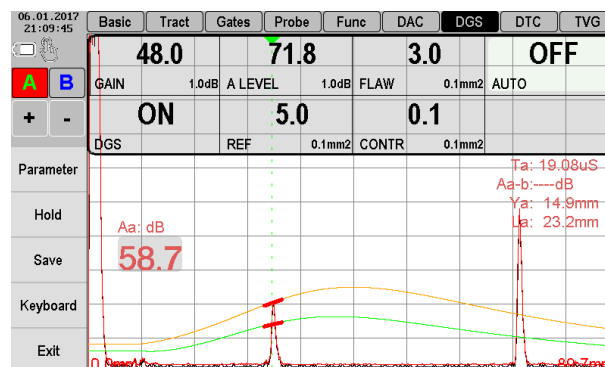

Figure 2.61 – DGS curve plotting - «AUTO» parameter is turned on
6. Turn on the automatic DGS curve plotting by selection «ON» in «AUTO» parameter. The device automatically determines reference signal amplitude. Also, reference signal amplitude user can input manually via «A Level» parameter (Figure 2.61).